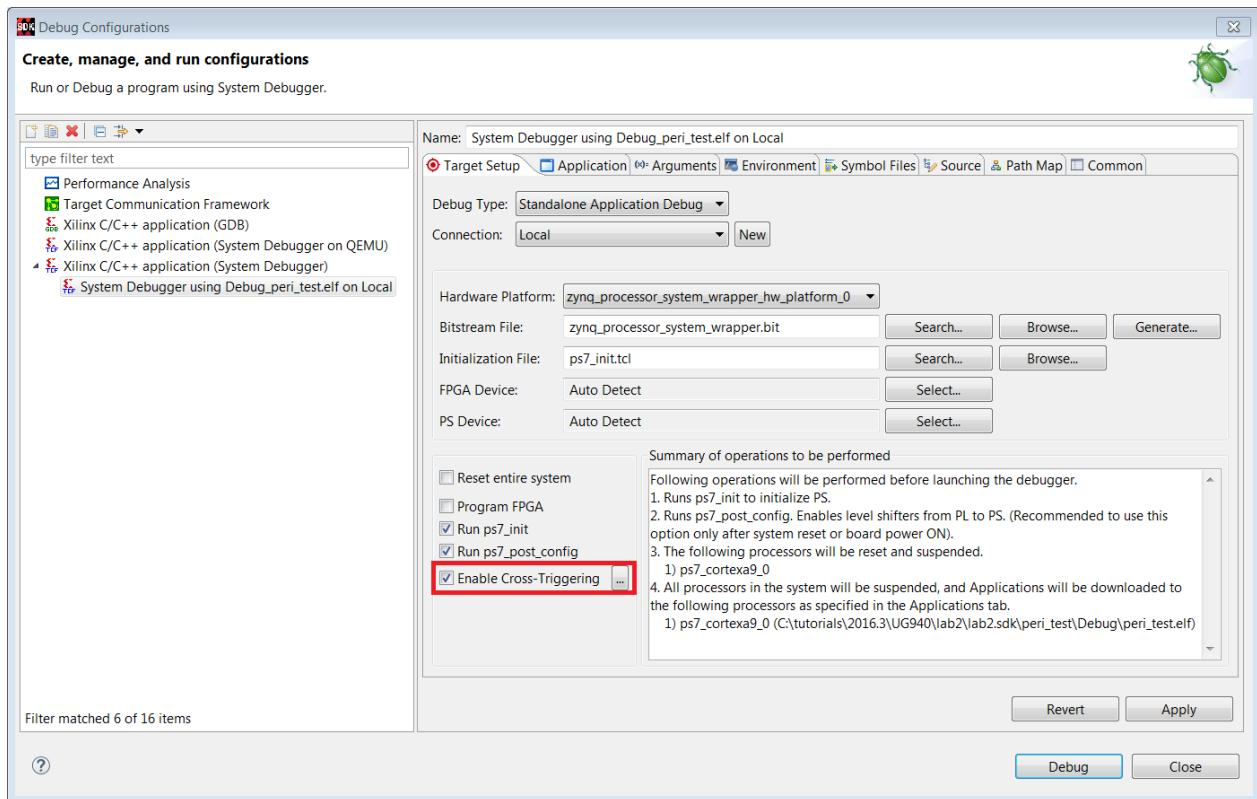

Figure 63: Debug Configurations Dialog Box
12. Click the **Browse** button for Enable Cross-Triggering option as shown in Figure 63.